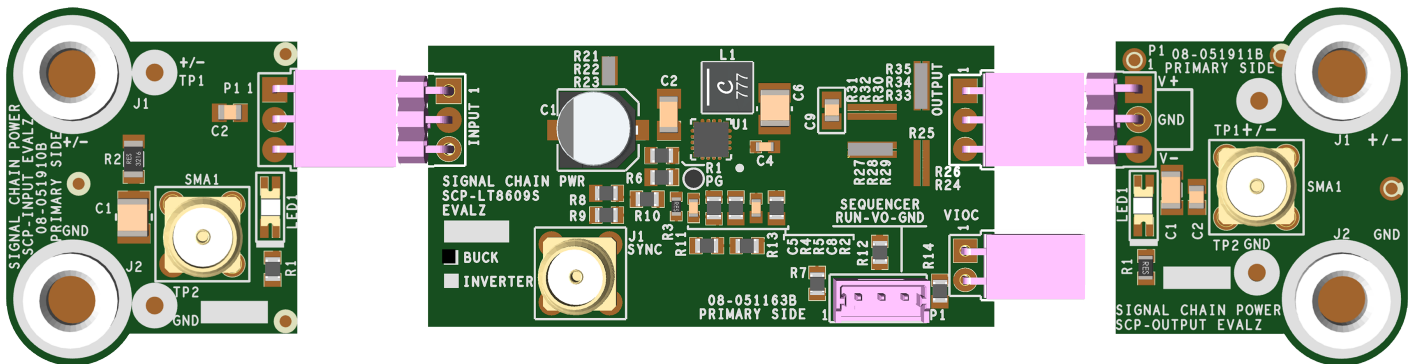

Figure 2. Proper Measurement Equipment Setup (Use SMA connectors for Measuring Input or Output Ripple)
2. Connect the SCP-INPUT-EVALZ and SCP-OUTPUT-EVALZ boards to the SCP-LT8609S-IEVALZ (refer to Figure 2) and connect the input board to a voltage source,  $V_{SOURCE}$ . Connect the output board to a voltmeter or dynamic load. Slowly raise the input voltage until the SCP-LT8609S-IEVALZ powers up into regulation and sweep  $V_{SOURCE}$  through the desired range of operation.